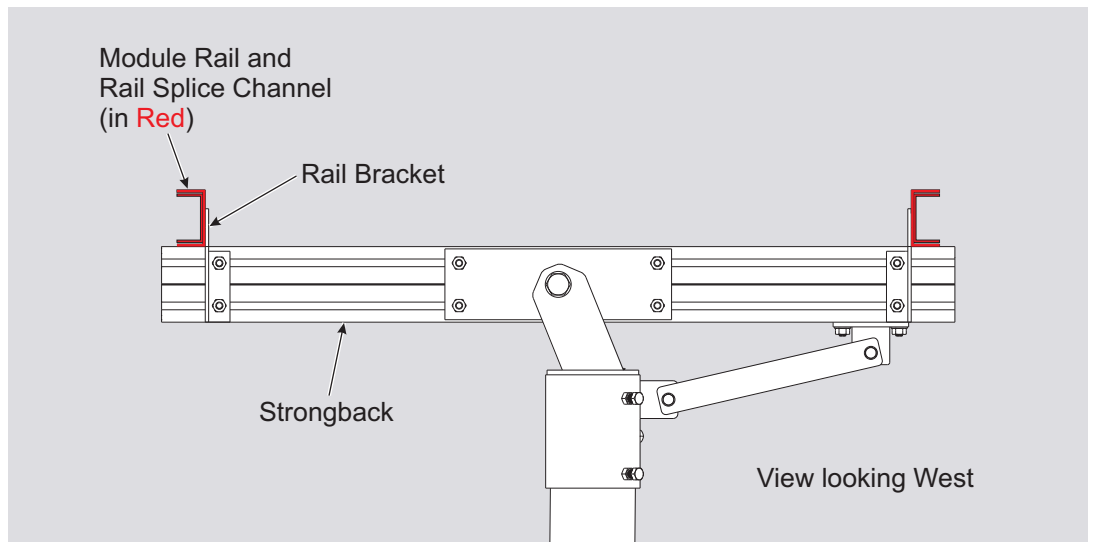
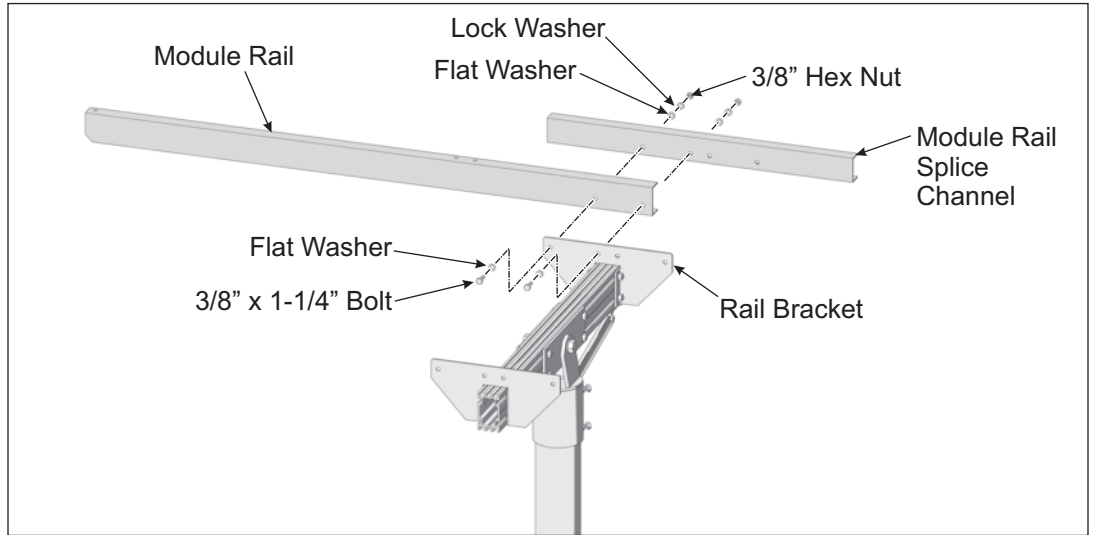

Figure 3-1: Orientation of Module Rails to Rail Brackets
Figure 3-2: Installing First Section of Module Rail to Rail Brackets
Module Rail orientation is dependent on location. Follow these instructions carefully for the correct orientation. (See Figure 3-1)
- A. Referring to Figure 3-1 for orientation of the Module Rails, position the first section of Rail and the Module Rail Splice Channel on the Rail Bracket. Align the set of mounting holes with the holes of the Rail Bracket and secure with 3/8" x 1-1/4" bolts and hardware. (See Figure 3-2) Finger-tighten for now.
- B. Continue in this manner and install the second set of Module Rail while following Figure 3-1 for proper orientation of the Rails to the Rail Brackets.